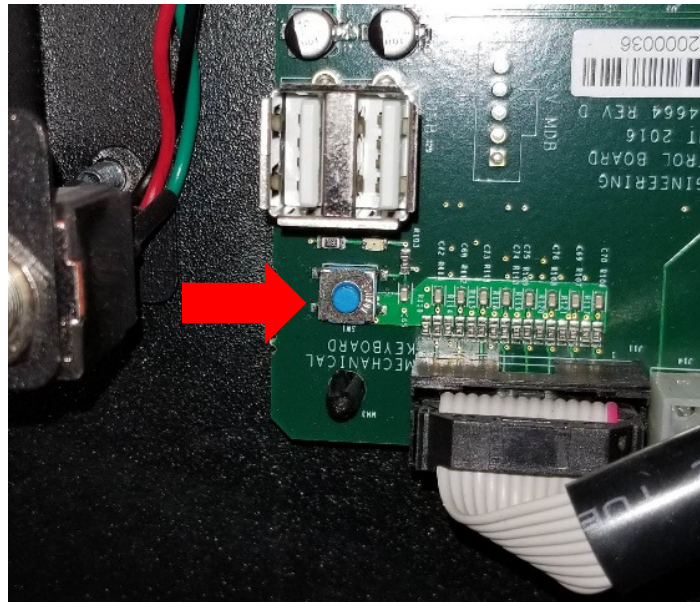

Figure 52
2. Next locate the Service Mode Button located on the main control board. Enter service mode on the machine by pushing the button. (See Figure 52.)